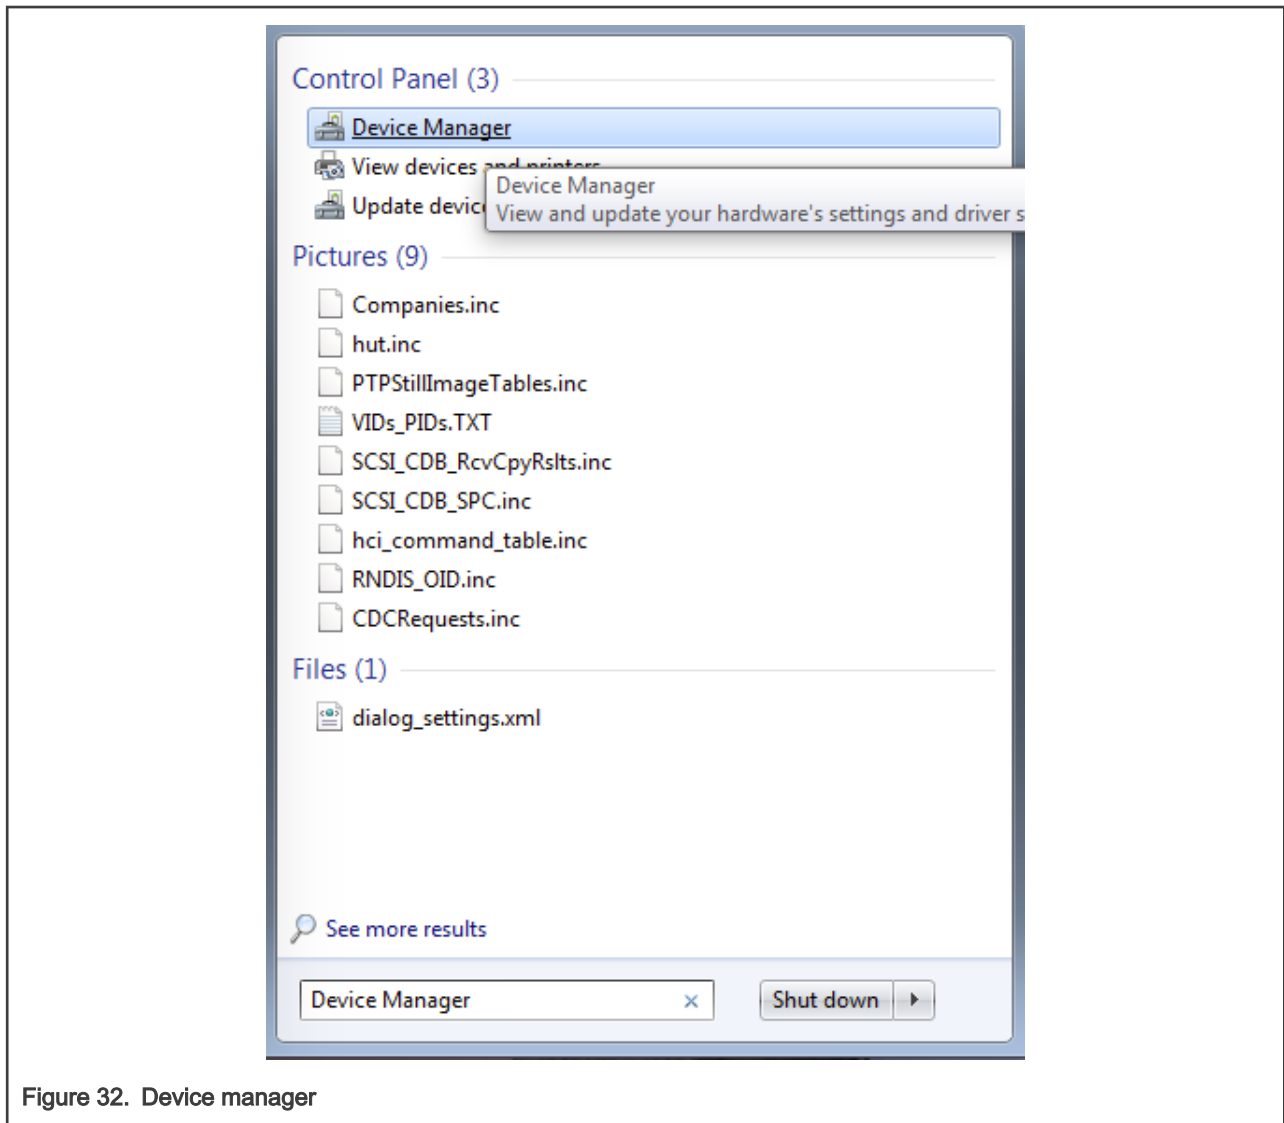

Figure 32. Device manager
1. To determine the COM port, open the Windows operating system Device Manager. This can be achieved by going to the Windows operating system Start menu and typing Device Manager in the search bar, as shown in Figure 32.